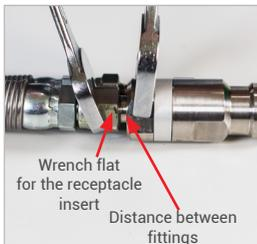

Figure 7
- ▶ Do not cover the area between the fittings (*Figure 7*); the pressure must be able to escape unimpeded when the fittings are loosened.
- ▶ Loosen the fitting of the filling hose at the port "B2" of the receptacle insert (Pos. 7) in the breakaway coupling. To do so, hold an open-ended wrench against the wrench flat A/F(2) of the receptacle insert (*Figure 7*).
**Attention:** Do not cover the area between the filling hose and breakaway coupling (*Figure 7*).